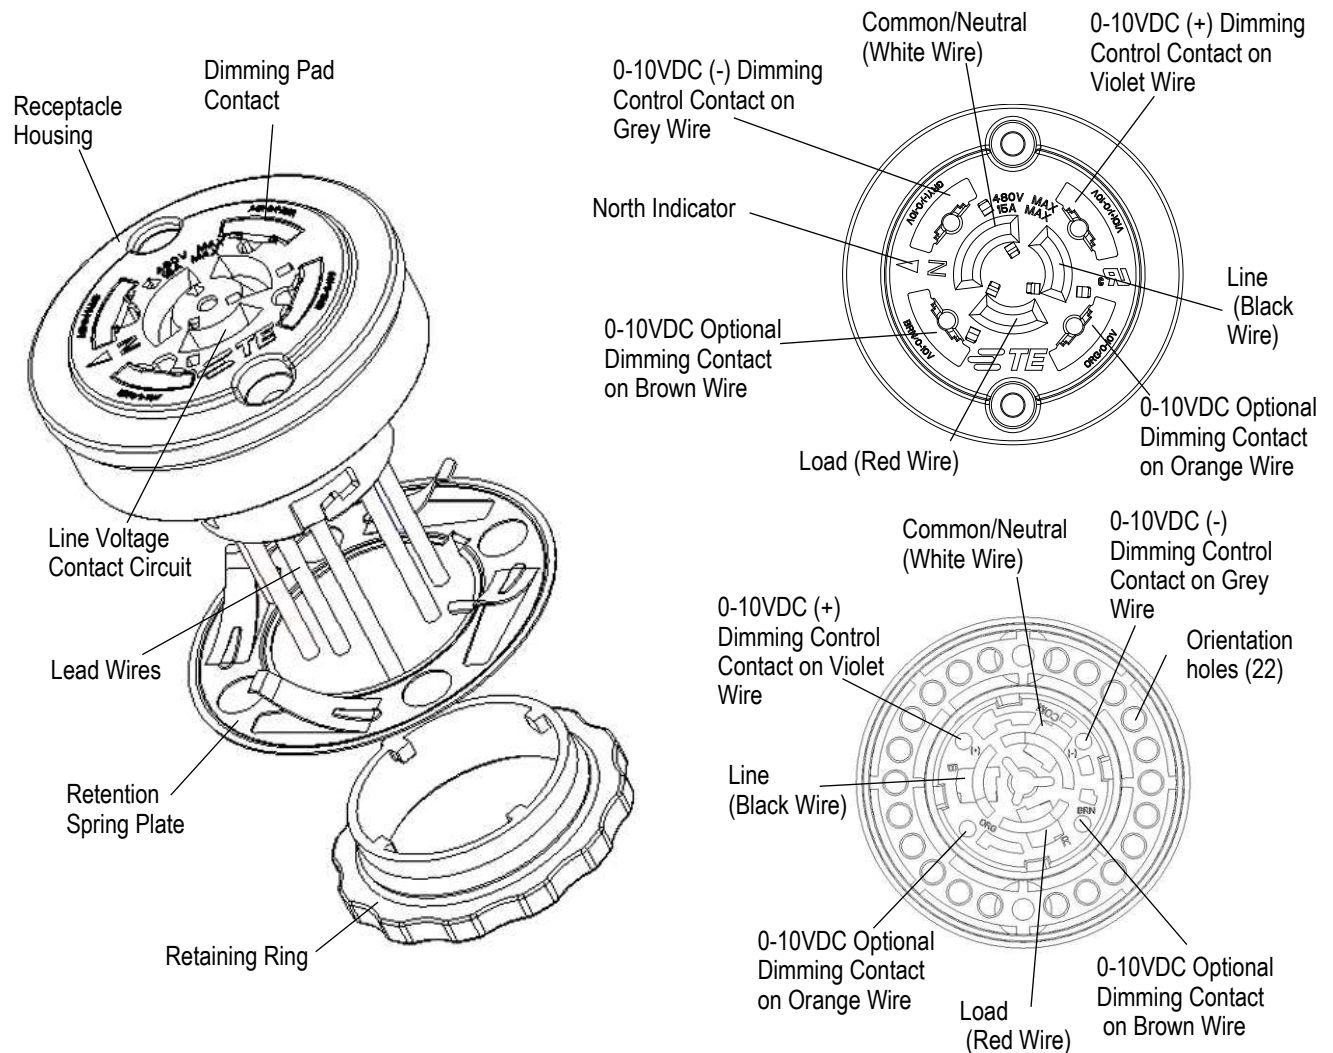

Figure 1
This specification covers the requirements for application of LUMAWISE Endurance N Tool-less Rotatable Dimming Receptacles typically used for roadway and area lighting, which conform to ANSI C136.41-2013. Just as the name implies, this receptacle is designed such that it may be assembled to the luminaire housing without any tools; and, once mounted, rotatable without tools. All contacts are pre-installed into the receptacle housing and pre-terminated lead-wires. The 3-line voltage AC circuits are wired with 14AWG stranded, while the 4-signal dimming control voltage DC circuits are wired with 18AWG stranded wire. Receptacle assemblies are available with both 105°C and 150°C rated wire, and are also available with either 2 or 4 dimming control pad-style contacts. corresponding with TE Connectivity (TE) Personnel, use the terminology provided in this specification to facilitate inquiries for information. Basic terms and features of this product are provided in Figure 1.